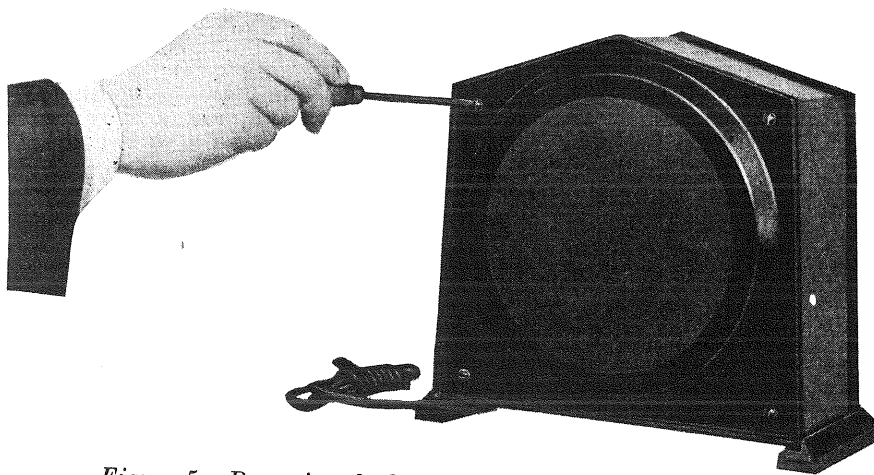
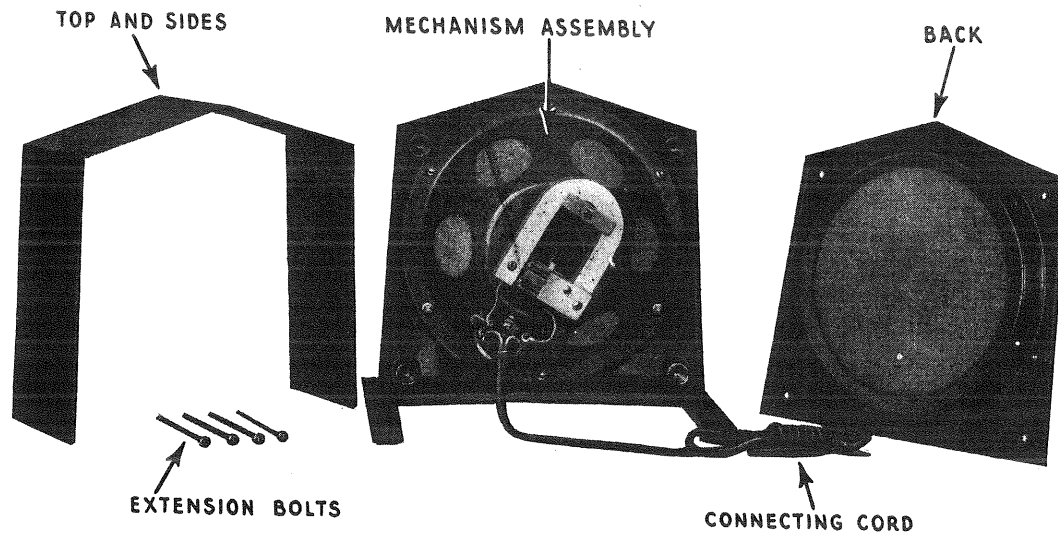

Figure 5—Removing the housing assembly extension bolts
Figure 6—Housing dismantled
- (b) With a screw-driver remove the four screws that hold the housing together. (See Figure 5). The back, top and sides can then be lifted clear leaving the mechanism accessible for any adjustment or repair that is necessary. (See Figure 6).